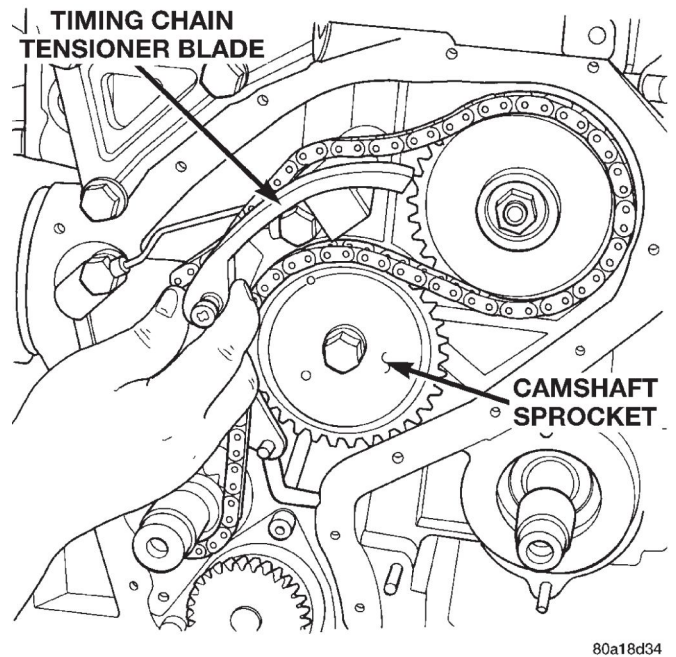

Fig. 69 Hydraulic Tensioner Blade
- (13) Remove hydraulic tensioner blade (Fig. 69).